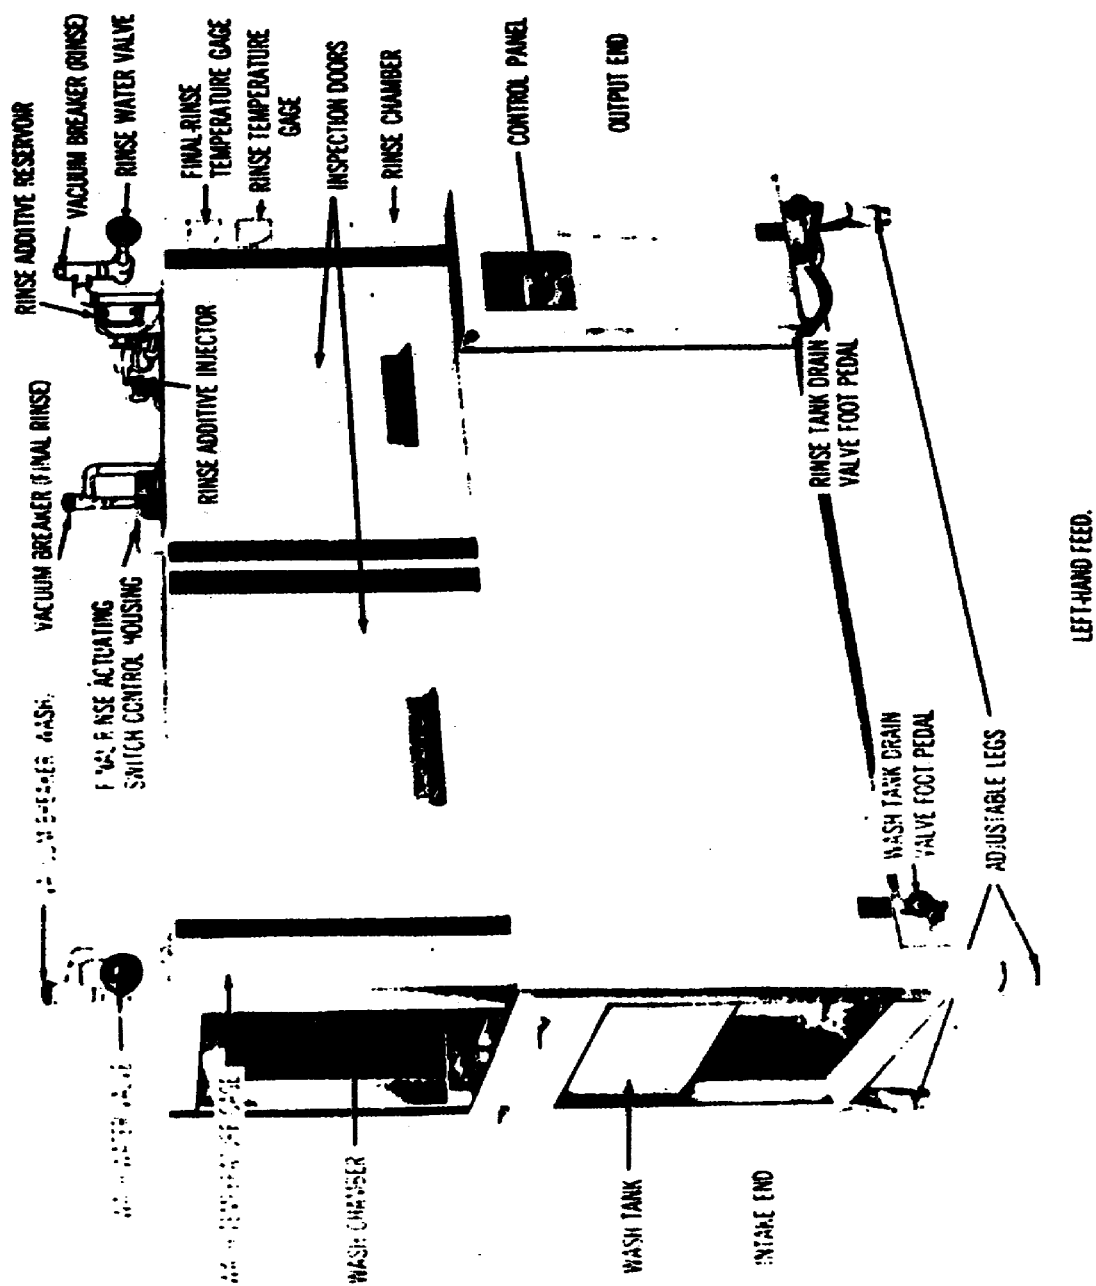

Figure 27. Dual-tank dishwashing machine with left hand feed.
26. DUAL-TANK DISHWASHING MACHINE. The dual-tank dishwashing machine (fig. 27) is similar to the single-tank machine, but the dual-tank machine has separate wash and rinse tanks with a splash curtain between them, and the racks of dishes are moved through the machine automatically on a conveyor chain instead of manually. The wash-water temperature is kept between 150° and 160° F, and the rinse water is kept at a minimum of 170° F. The dual-tank machine has an additional curtain rinse as its final phase. In the curtain rinse, water is sprayed evenly across the width of the conveyor from above and below. The temperature of the water must be at least 180° F; if the water temperature falls below 180° F, the machine will cut off automatically.